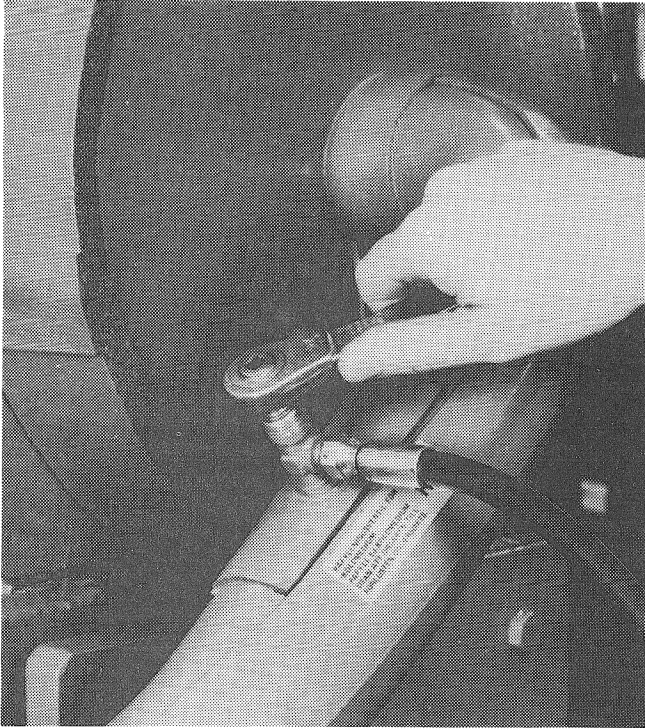

Fig. 23 Valve used to add refrigerant
5.6 Top up the refrigerant charge. Add refrigerant in liquid form either downstream from the system's expansion valve AV9 (see Figs. 23 and 7) or in liquid line AV17 downstream from the condenser. In the latter case, it may be necessary to lower the pressure in the line. In such case, throttle valve AV 15 (located downstream from the condenser).